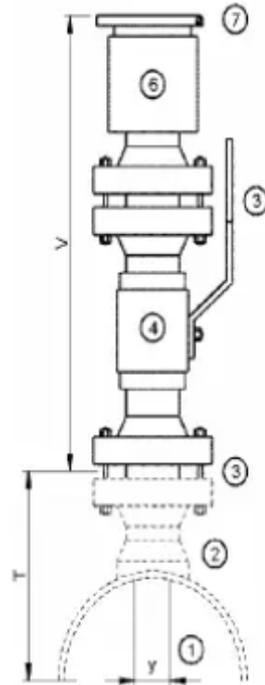

Figure 1
7. Isolation valve, to be provided by VENDOR, shall be integral and bolted to the Pig Signaller (refer to schematic installation as per Figure 1 in this document).
| Installation: | See figure 1 attached to this document |